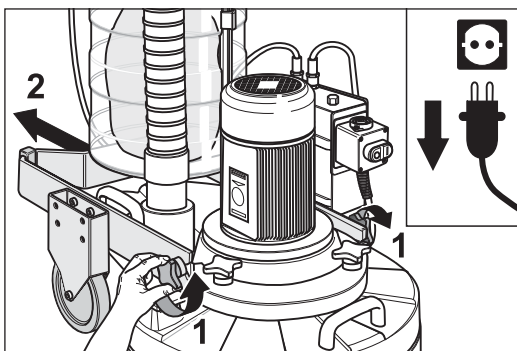

Fig. 54 The chassis can be moved backwards once the cross grip fasteners have been loosened.
- 5 Loosen the two cross grip fasteners at the side by which chassis is attached to machine housing (fig. 54, 1) and move the chassis backwards (fig. 54, 2).